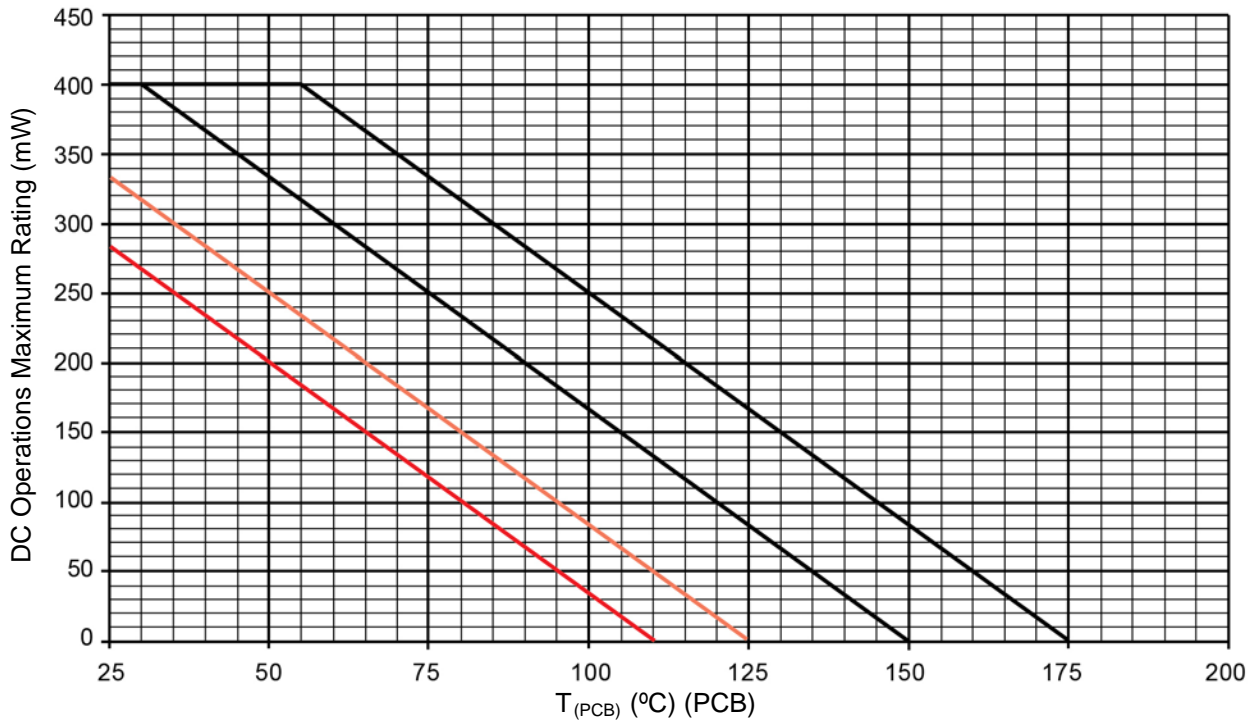

FIGURE 2
2. The 0.5 W linearly derates starting at $T_{EC} = 125^{\circ}\text{C}$ and goes to zero at 175°C . For ambient T_A condition on a typical PC board, it linearly derates from 400 mW starting at 55°C and goes to zero at 175°C (see Figure2).